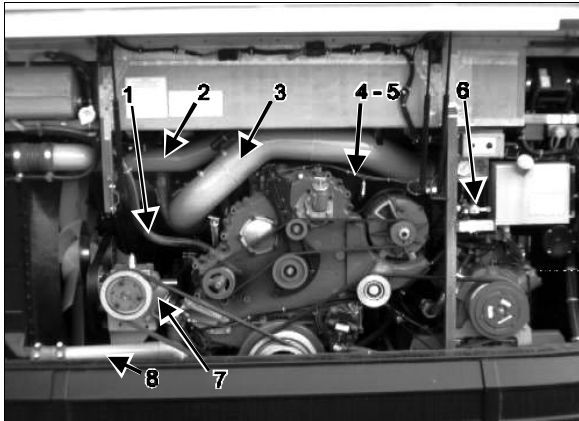

FIGURE 15: ENGINE COMPARTMENT
6. Disconnect and remove the engine air intake duct mounted between air cleaner housing and turbocharger inlet (3, Fig 15).
7. Disconnect and remove the air intake duct mounted between the air cooler outlet and the intake engine (2, Fig. 15).
8. Disconnect and remove section of coolant pipe assembly mounted between the radiator outlet and the water pump inlet (8, Fig. 15).
11. Dismantle the air bellow of the upper bracket tensioner for the fan drive assembly. Remove the upper bracket (7, Fig. 15).
22. Disconnect the engine oil pressure steelbraided hose from the mechanical oil pressure gauge and the cable of the gauge water temperature (4 and 5, Fig. 15).